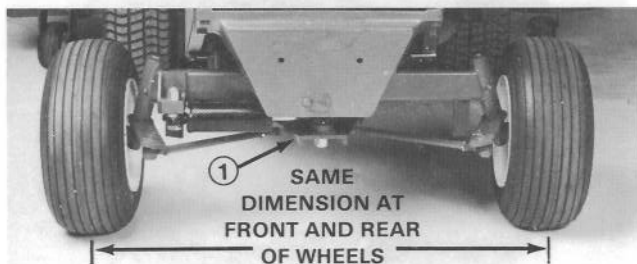

Figure 47
2. Loosen the jam nuts on both tie rods. Adjust both tie rods until center-to-center distance at front and back of rear wheels is the same (Fig. 47).